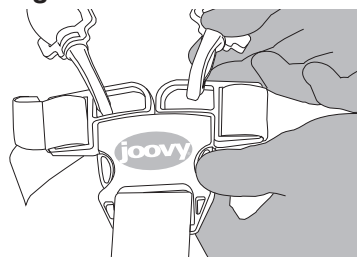

Figure 26
- Ensure that both shoulder straps are attached to the waist strap buckles. See Figure 26.